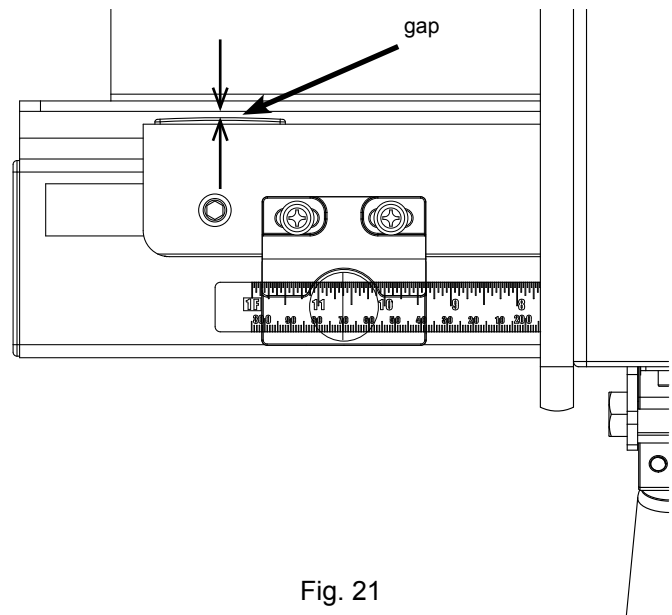

Fig. 21
21. Once the fence is tightly clamped to the front tube, move the left end of the tube back toward the saw until there is only a small gap (approximately 1/16") between the front rail and the rear of the fence (see Fig. 21). Tighten the left-most M8 x 16 hex head screw that holds the tube to the front rail using a 13 mm wrench.